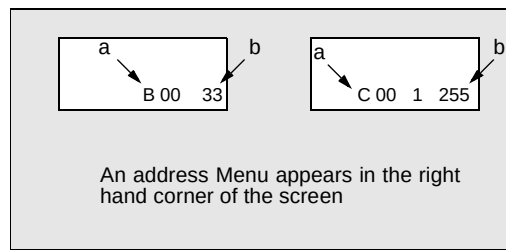

Figure 20. Service Mode Menu Adjustments.
Note: Only the applicable settings for the Receiver serviced will be available (See a in Fig. 20).
1. Press **Channel Up/Down** on the **Remote Control** to select one of the available Service Adjustments (**a** in Fig. 20).
*Note: Write Down the original value set (**b** in Fig. 20) for each address before modifying anything. It is easy to erroneously adjust the wrong item.*
2. Press **Volume Up/Down** on the **Remote Control** to adjust the level of the selected Service Adjustment (**b** in Fig. 20).